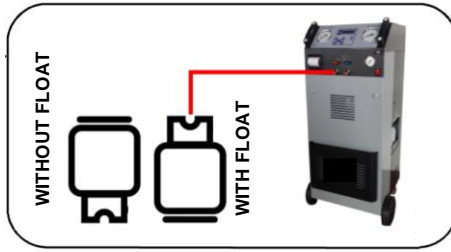

Figure 5
- Connect the external gas tank to the station using the high pressure coupling (**RED**), orienting the tank as in Figure 5 according to float presence or absence.